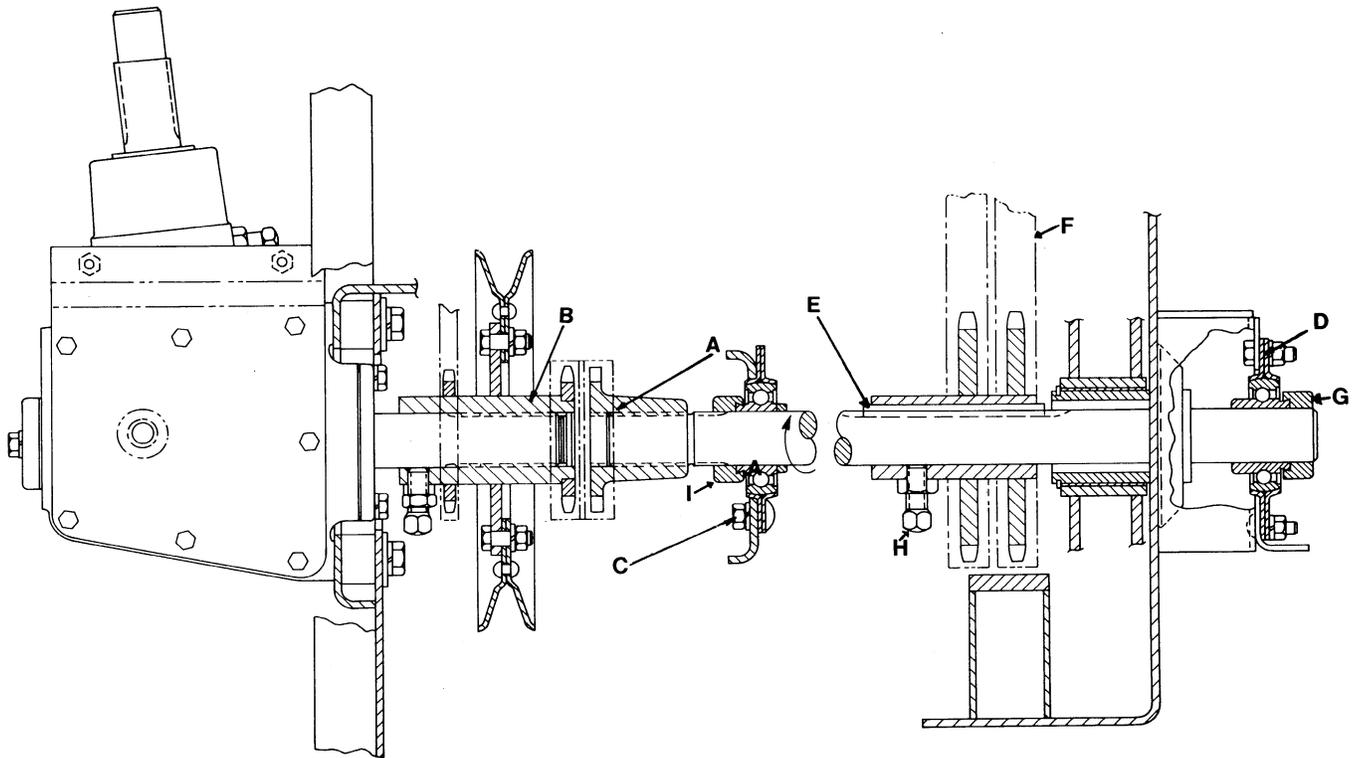

FIGURE 10A
1. Remove the conditioner roll drive chains, F, Figure 10A.
1. Install shaft, sprocket, and bearings as shown in Figure 10A.